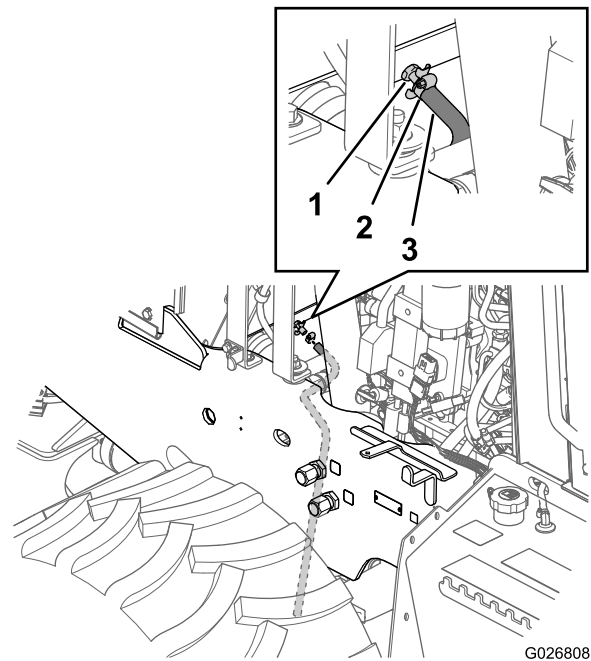
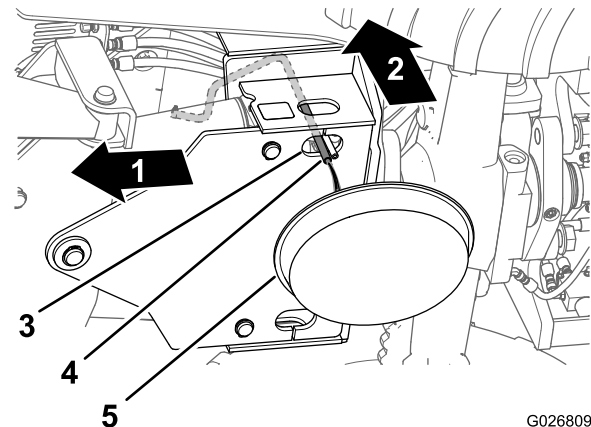
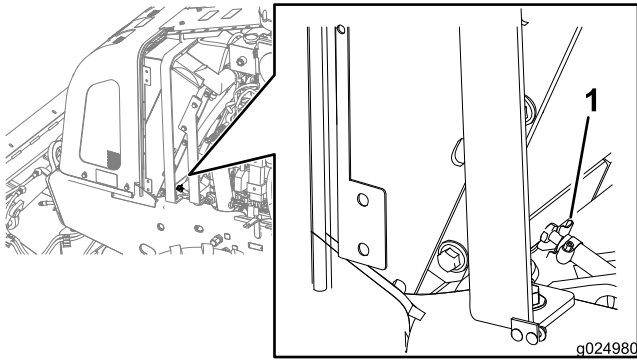

Figure 104
Figure 105
Figure 106
4. Slip a coolant resistant hose that is 3/8 x 30 inches over the outlet for the drain valve in the radiator (Figure 104).
5. Secure the hose to the drain valve with a hose clamp (Figure 104).
6. Route the hose down and through the hole in the lower mounting plate for the back fill blade (Figure 105).
7. Place a drain pan with a minimum capacity of 23 L (6 gallons) under the open end of the drain hose (Figure 105).
9. Close the drain valve (Figure 106).
10. Remove the drain hose and clamp (Figure 104 and Figure 105).
- A. Ensure that the coolant is drained from the radiator and that the drain valve is closed (Figure 106).
- D. Open the drain valve and drain the cleaning solution into a drain pan (Figure 104 and Figure 106).
- E. Close the drain valve (Figure 106).
- C. Open the drain valve (Figure 106) and drain the water into a drain pan.